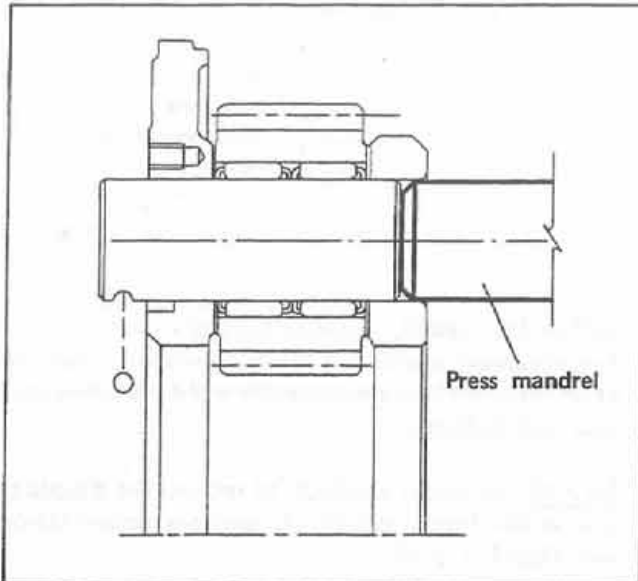

Figure 8:
A. Press out planetary gear pin (s) toward outer flange (see Fig. 8). Be sure to catch ball lock as pin emerges.